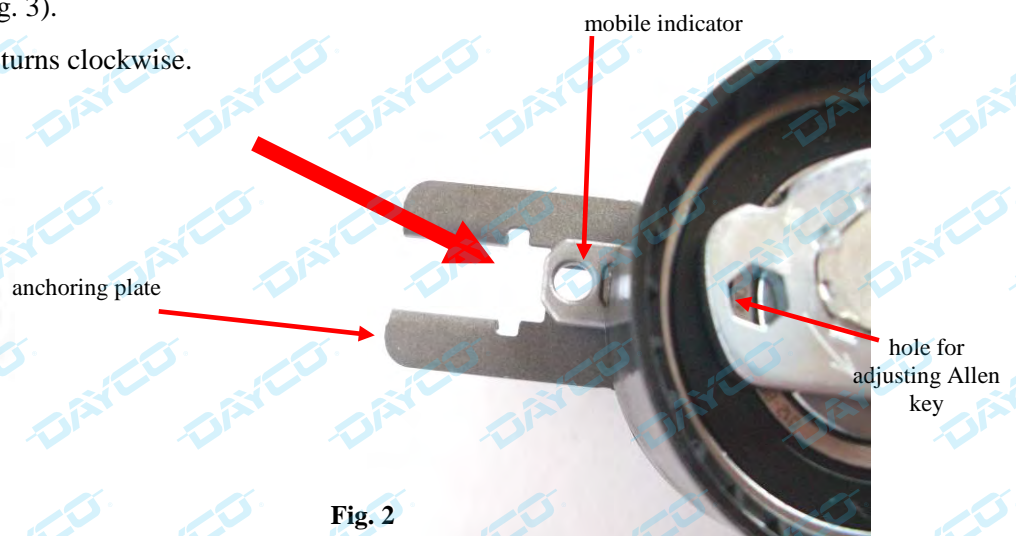

Fig. 2
- With the appropriate Allen key, rotate the tensioner anticlockwise until the mobile indicator is in the position shown in Fig. 2.